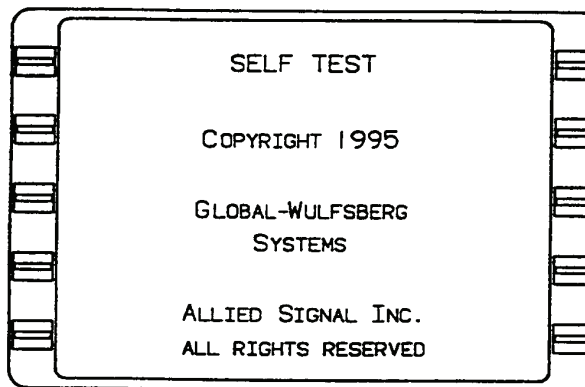

Figure 3A-24. FMS Self-Test Page
(1) *Self-Test Page.* The Self-Test page, Figure 3A-24, appears when power is applied to the system. While the Self-Test page is displayed, the computer performs a self-test that must be successfully completed before proceeding. If a problem is detected, the SELF-TEST display may be replaced by a NO DATA RECEIVED message.
(2) *Initialization Page.* After the self-test is completed, the Initialization page, Figure 3A-25, will display.